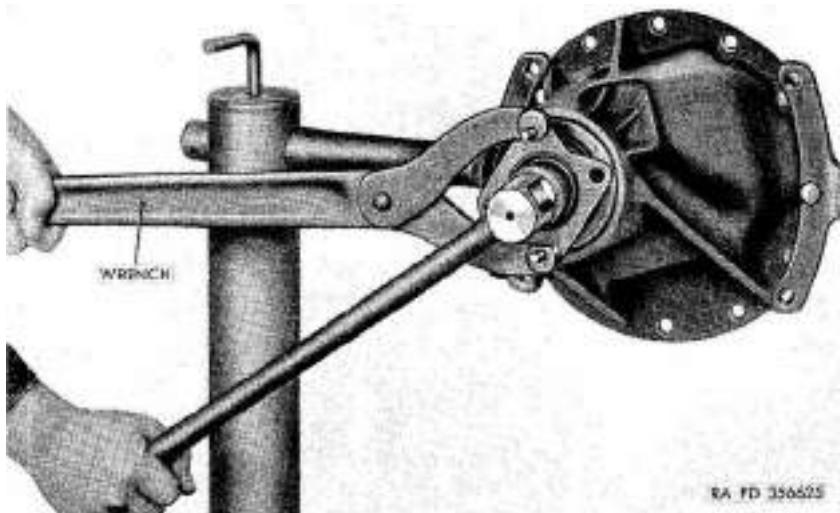

Figure 75. Holding companion flange with wrench 41-W-3277-40.
- (1) Place differential with carrier assembly in a suitable stand to facilitate disassembly.
- (2) Remove $1\frac{1}{8}$ cotter pin (A) from companion flange nut (B).
- (3) Hold companion flange (C) with wrench 41-W-3277-40 (fig. 75) and loosen nut.